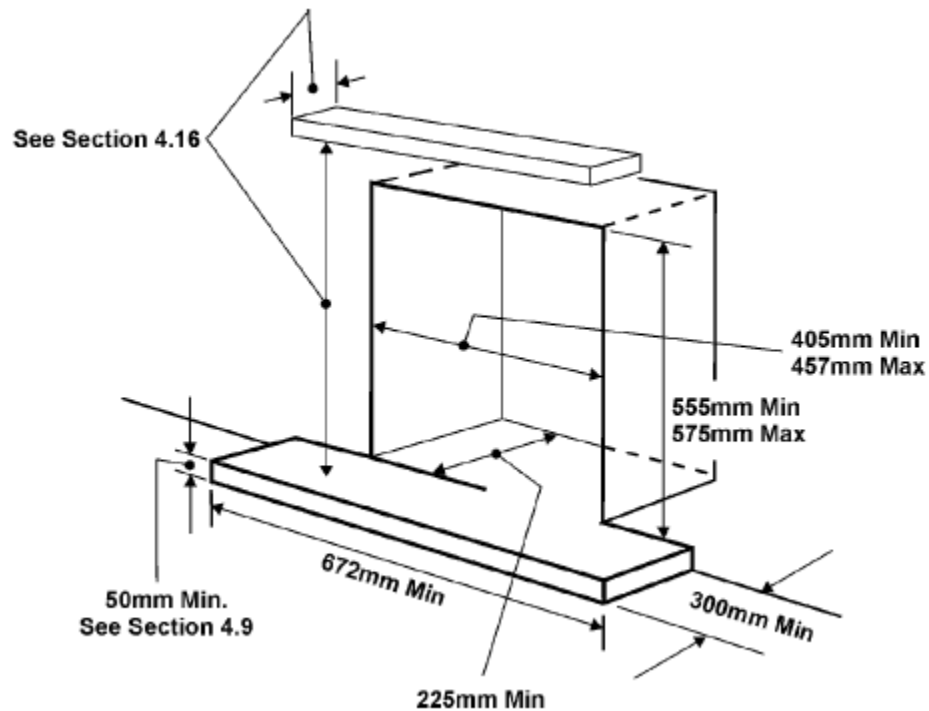

Figure 1. Hearth and fireplace opening dimensions
4.2.1 To a fireplace complete with surround and hearth as shown in figure 1 and complying with BS1251 after removal of the fireback and sufficient material behind the fireback for a debris catchment space. The required fireplace, hearth, debris catchment area and clearance dimensions are shown in figure 1.